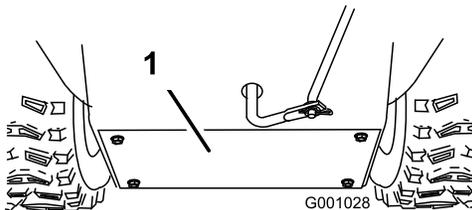

**Figure 34**
Lightly lubricate the hex shaft yearly with automotive engine oil (Figure 34).
**Important:** Do not get oil on the rubber wheel or the aluminum friction drive plate because the traction drive will slip (Figure 34).